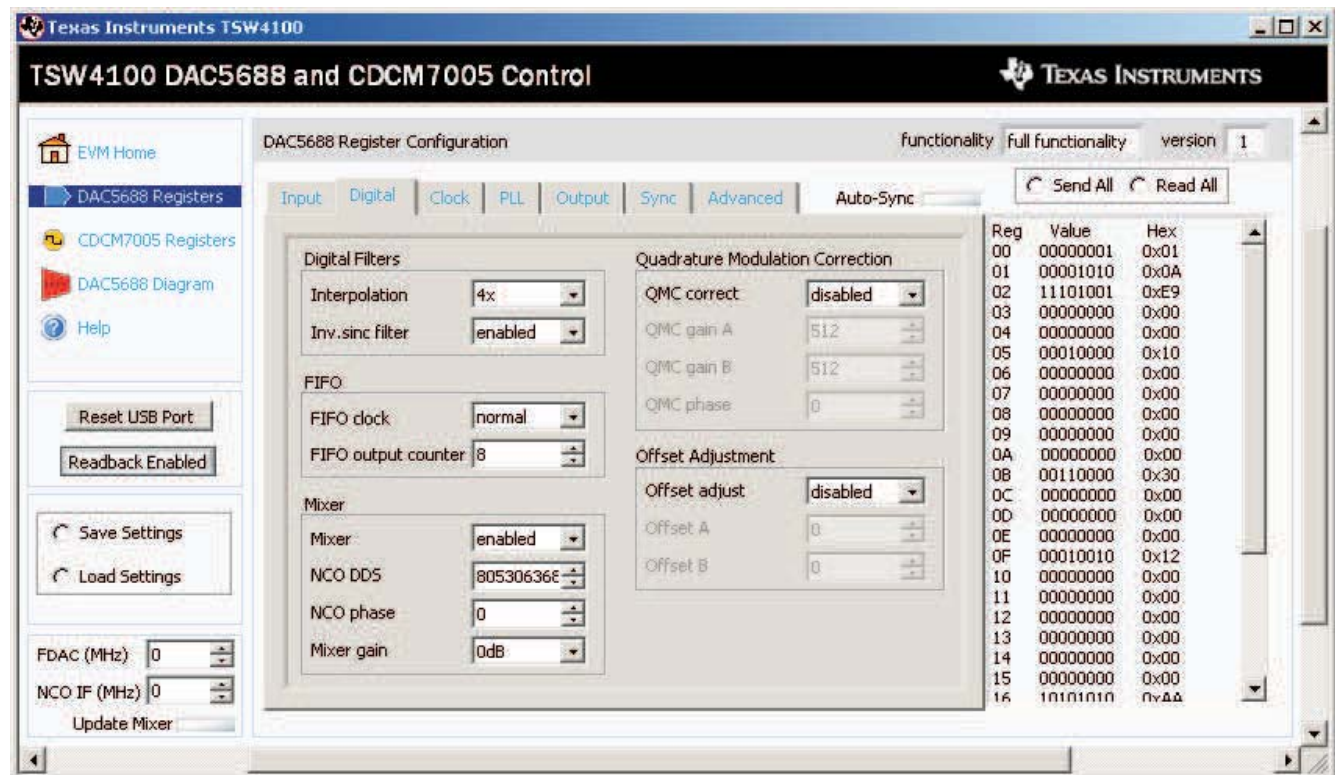

Figure 18. DAC5688 Filters
3. Click on the *Digital* tab. The GUI display shall now look as shown in Figure 18. In this window, the user can change the DAC interpolation rate, FIFO settings, Mixer settings, Quadrature Modulation Correction settings, and Offset adjustments.